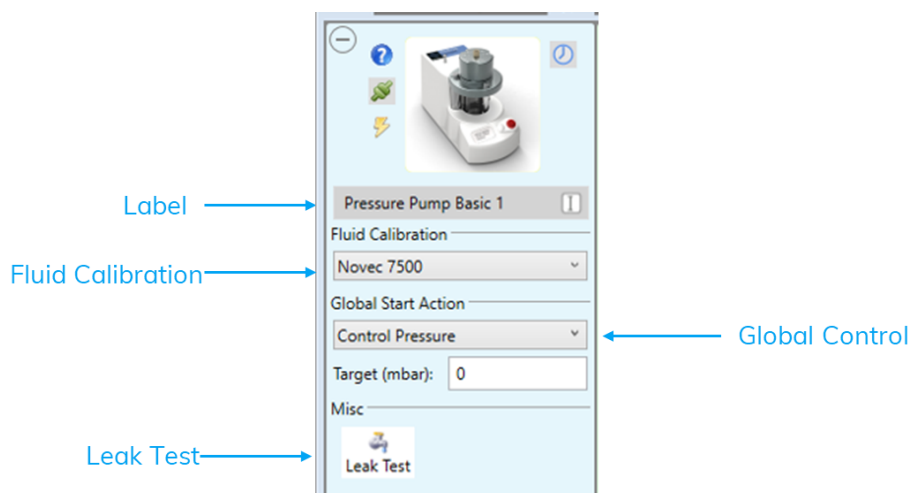

Figure 38 Information and Settings options
Expanding the information and settings panel allows the user to alter some of the data listed above (Figure 38).
- Step 1:** Select the Cursor icon as seen in Figure 38, the box should turn yellow.